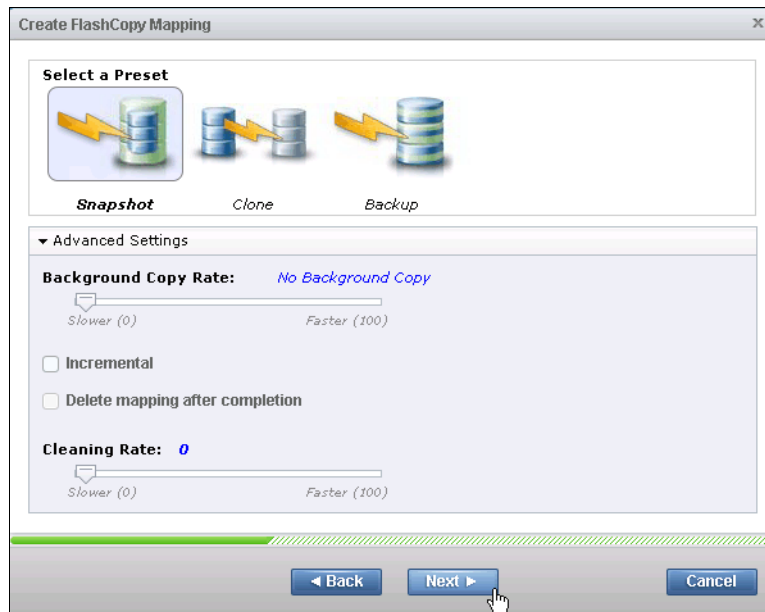

Figure 11-28 Select a preset and make your adjustments
4. Select the preset and adjust the settings (Figure 11-28). Make sure that the settings meet your requirements, and click **Next**.